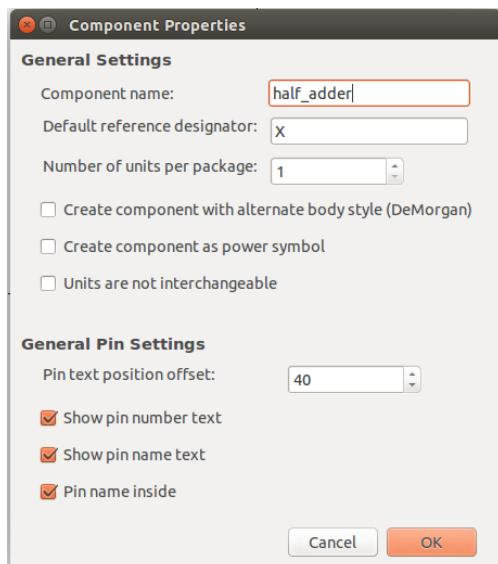

Figure 8.7: Creating New Component
3. Click on create on new component with reference X as shown in Fig. 8.7